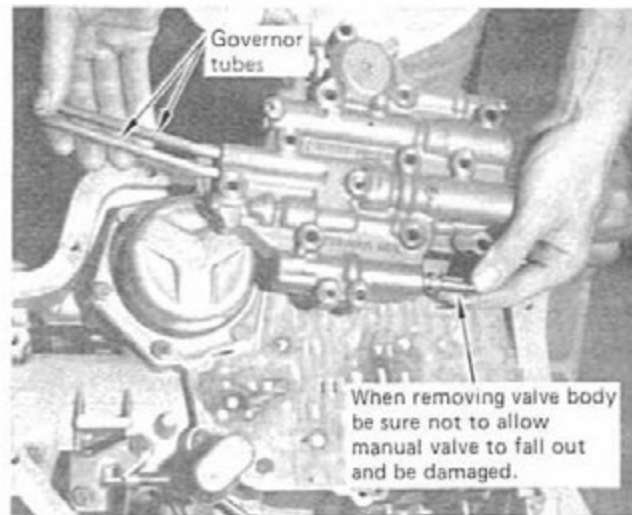

FIGURE 6
STEP 4. Remove valve body bolts. Three bolts are 1/4-20, the rest are 5/16-18. Keep drain pan underneath the valve body as there is an additional pint of fluid between valve body and case. Hold the valve body in place as you remove the last bolt. Remove the valve body and governor tubes together. (See Fig. 6) If your transmission has a lot of miles on it, the gaskets may be stuck. Free the valve body by carefully prying up with a screwdriver. Do not use excessive force. Hold on to the manual valve during removal so it does not fall out and get damaged. Set the valve body, valve body bolts and governor tubes aside. Discard any filters in the governor tube holes.